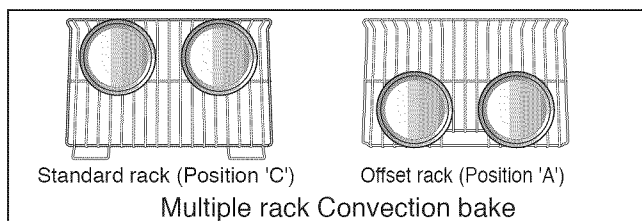

Figure 1
- If cooking on multiple racks, place the oven racks in positions **A (1 Offset rack)** and **C (1 Standard rack)** for **convection bake**. Place the cookware as shown in Fig.1, 2.